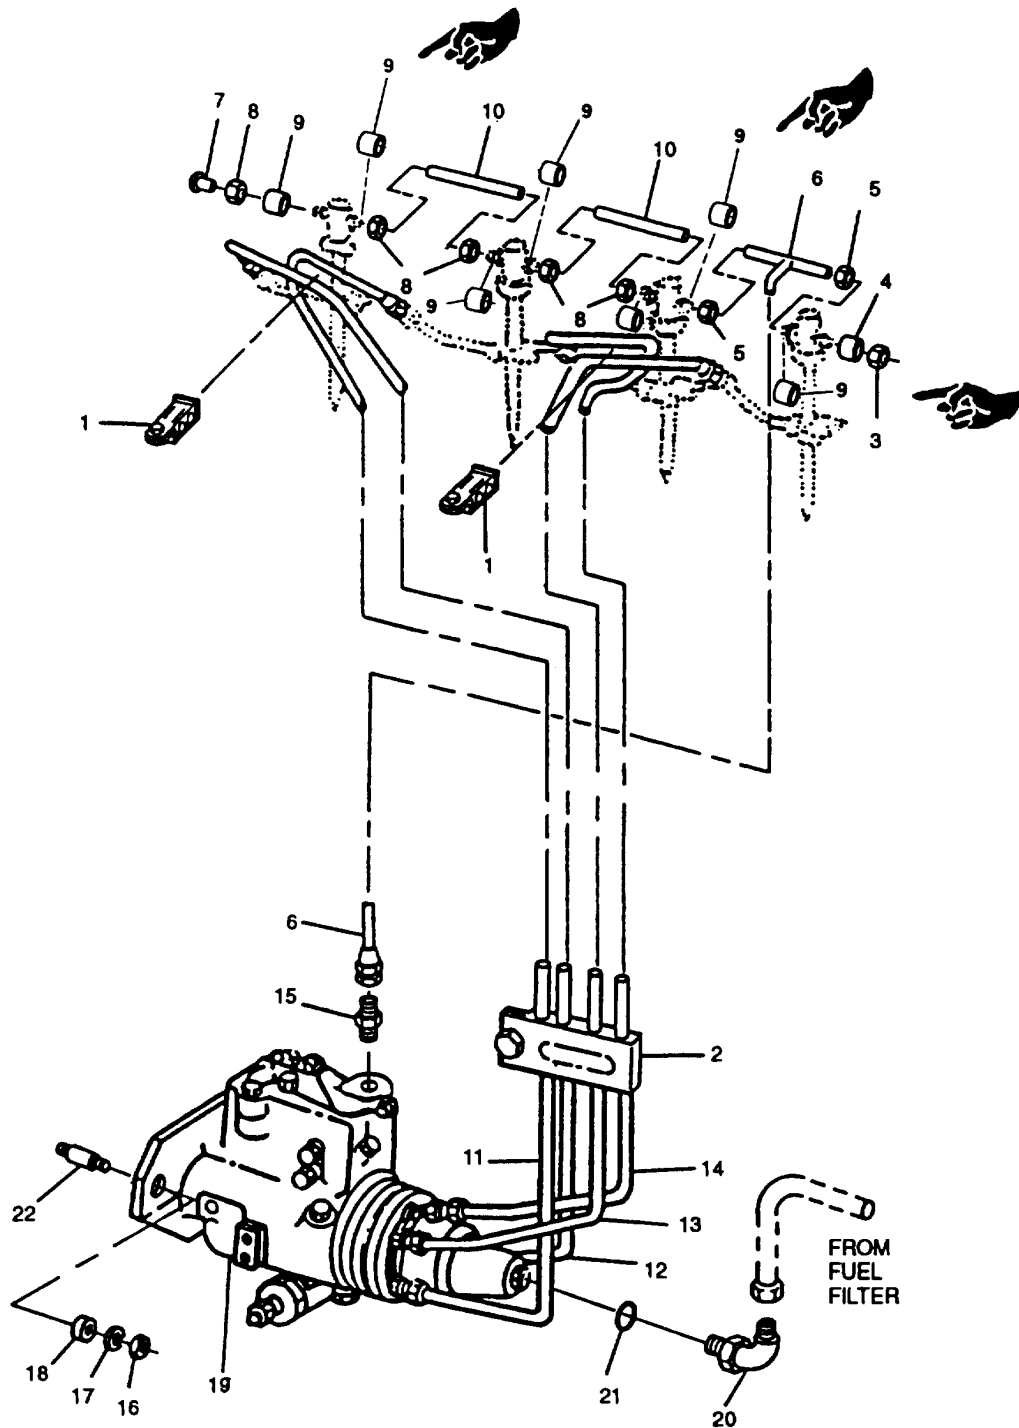

FIGURE 3-41. Fuel Lines and Injection Pump Installation
- b. If necessary, remove fuel line (9) by disconnecting it at elbows (10 and 24).
- c. Remove two loop clamps (1, FIGURE 3-41).
- d. Remove loop clamp (2).
- e. At cylinder No. 4 fuel injector, loosen coupling nut (3) and disconnect return line to fuel tank. Remove coupling nut (3) and bushing (4). Discard bushing (4).
- f. Between injectors Nos. 3 and 4, loosen coupling nuts (5) and disconnect return tube (6). Remove nuts (5). Disconnect other end of tube (6) from fitting (15).
- g. Loosen coupling nuts (8) securing tubes (10) to injectors. Remove tubes (10), coupling nuts (8), rivet (7), and bushings (9). Discard bushings (9).
- a. Remove all caps and connect four fuel injection lines (11, 12, 13, and 14, FIGURE 3-41) to fuel injectors and fuel injection pump as tagged during removal.
- b. Install new bushings (9) and coupling nuts (8) on tubes (10). Install tubes (10) to fuel injectors and secure with coupling nuts (8). Do not overtighten coupling nuts.
- c. Connect tube (6) to fitting (15). Connect other end of tube between injector Nos. 3 and 4 using new bushing(9) and coupling nuts (5). Do not overtighten coupling nuts.
- d. Connect fuel tank return line to No. 4 injector using new bushing (4) and coupling nut (3). Do not overtighten coupling nut.
- f. Disconnect fuel supply line (FIGURE 3-41) from fuel injection pump.
- g. Disconnect fuel tube assembly (6, FIGURE 3-41) from fitting (15) on fuel injection pump.
If nuts (16), FIGURE 3-41) are removed prior to shaft/gear separation, fuel injection pump will fall out which can cause personal injury and/or equipment damage.
- l. Loosen three nuts (16, FIGURE 3-41) several turns to permit pump shaft/drive gear separation.